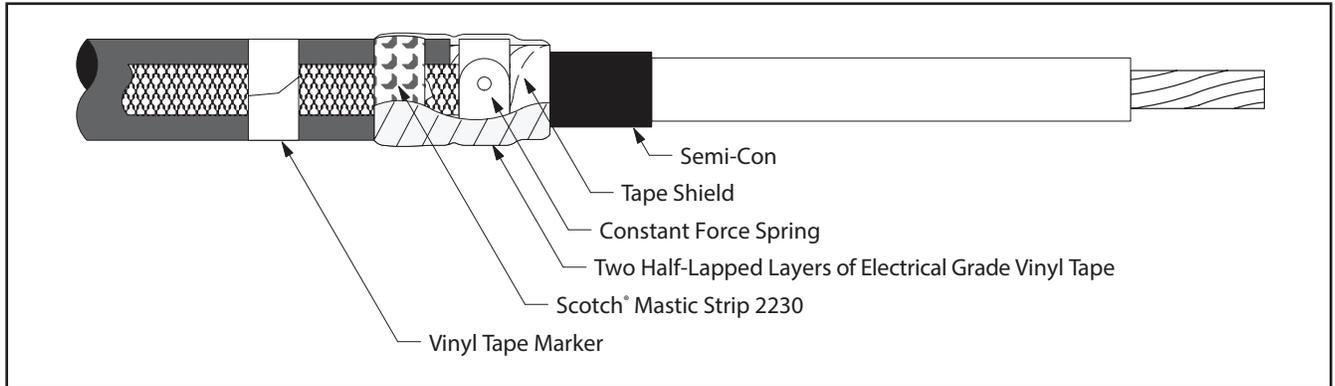

Figure 4
3.4 Wrap two highly stretched half-lapped layers of electrical grade vinyl tape around mastic seal, constant force spring and exposed tape shield (*Figure 4*).